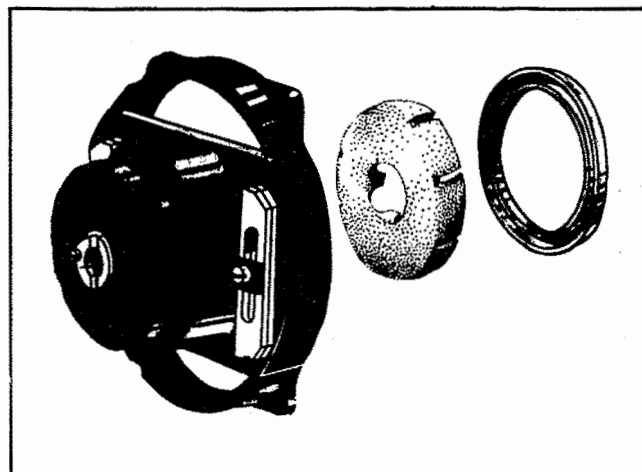

Figure 36
a. Remove the oil pad cup and take out the oil pad (figure 36).